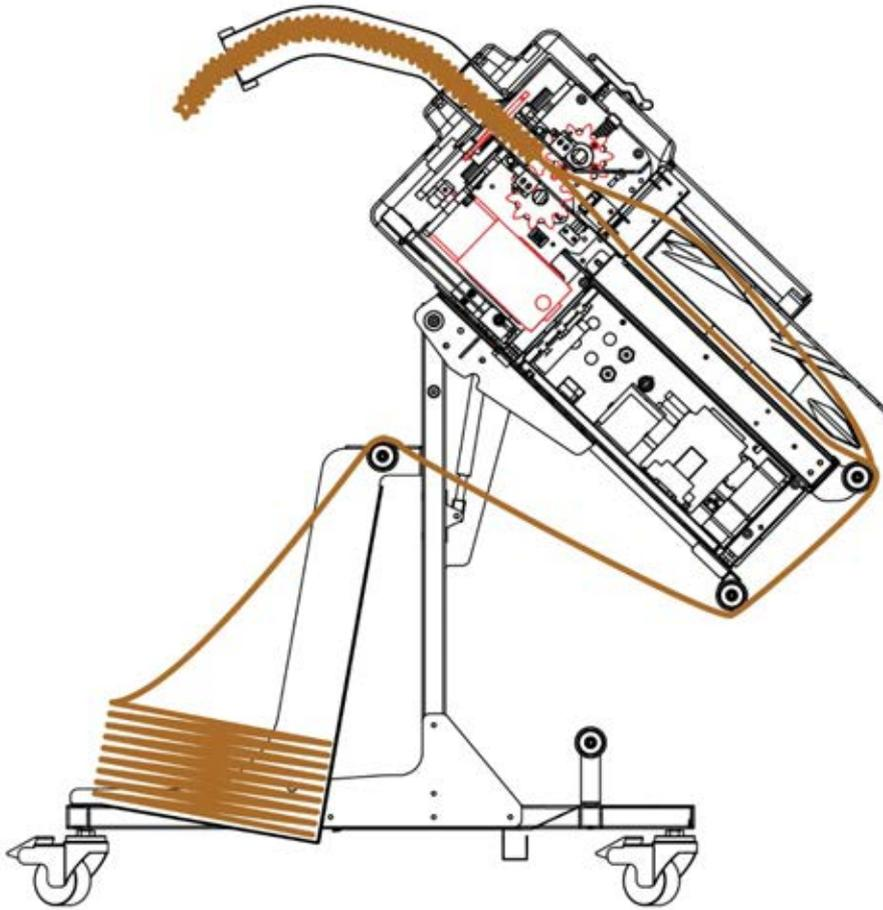

Figure 22 Paper Output - Table-Side Stand
2. Thread the paper through the rollers (refer to Figure 22).